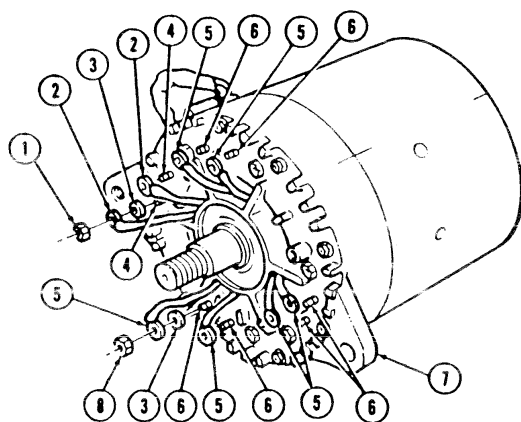

FIGURE 3-50
- (13) Install six washers (3), phase leads (5), and nuts (8) to diodes (6) on front housing assembly (7). (see figures 3-50 and 3-55) Tighten nuts (8) to 18 lb-in (2 N•m).
- (14) Install two washers (3), field leads (2), and nuts (1) to studs (4) on front housing assembly (7). Tighten nuts (1) to 18 lb-in (2 Nom).
- (15) Apply a thin coat of NSN 8030-01-159-4844 sealant to leads (2) and (5) on studs (4), diodes (6), and front housing assembly (7).